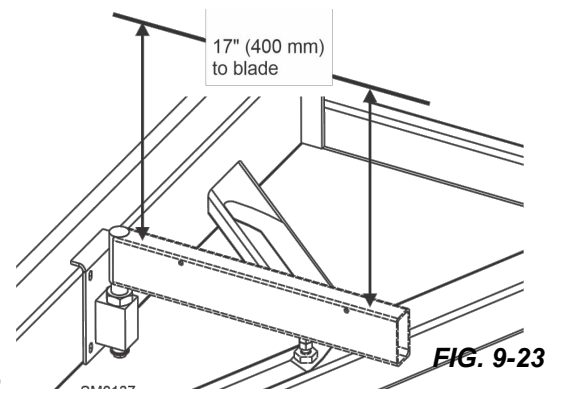

FIG. 9-23
4. Move the carriage forward to check the distance to the blade at the inside of the pivot rail support. See FIG. 9-23.